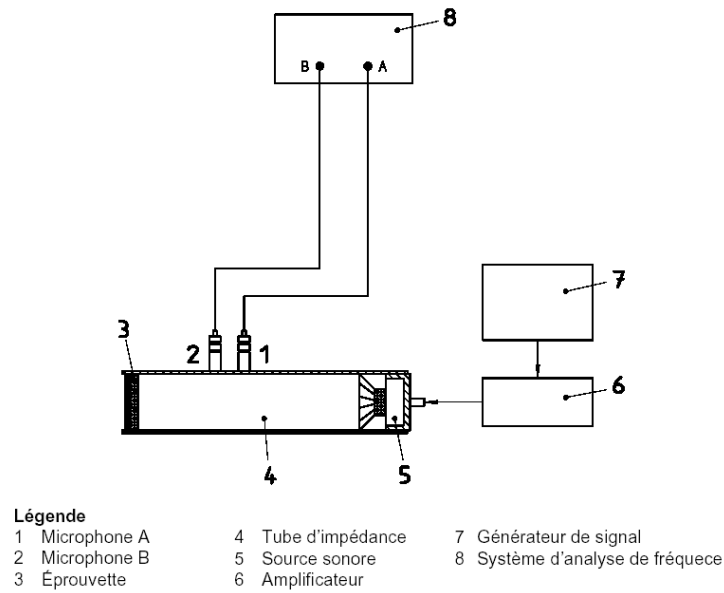

Figure 2: Measurement setup
- Prepare the measurement setup as described in Figure 2. The microphones will be connected to input 1 and 2 of the Pulse Hardware, and the amplifier is connected to output 1 (connector # 5 of the Pulse Hardware).